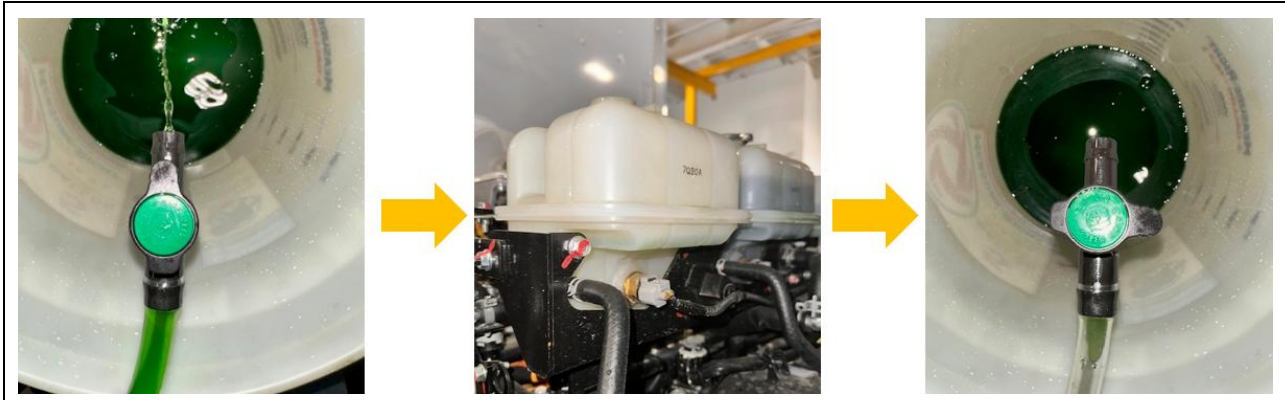

Figure 28
60. Open the valve at the end of the vinyl tube and allow just enough coolant to drain to empty the coolant reservoir. Close the valve as soon as the reservoir is empty. (See Figure 28.)